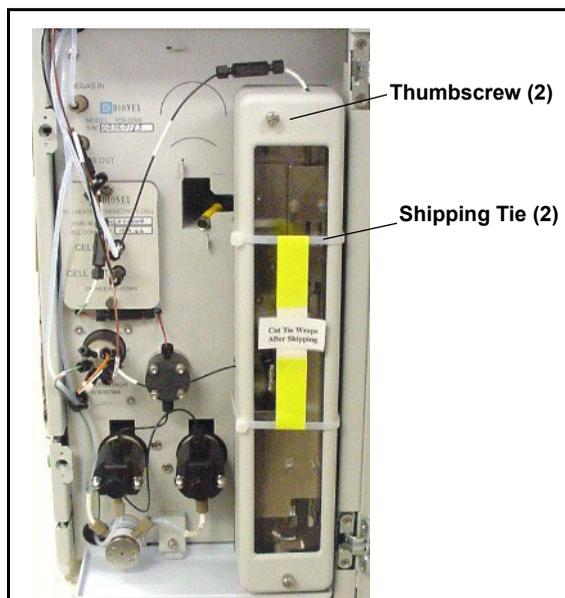

Figure B-17. ICS-2000 Column Heater Setup
1. Cut off the two shipping ties from the column heater and remove them (see Figure B-17).